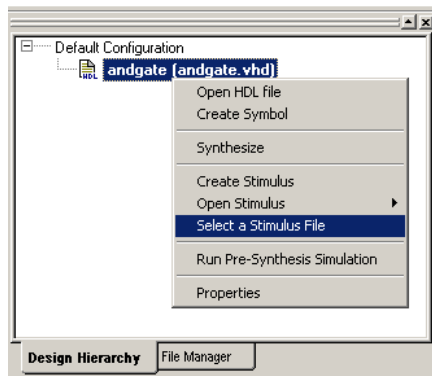

Figure 2-13. Selecting a Stimulus File
1. Select a stimulus file. Right-click `andgate` in the **Design Hierarchy** tab and choose **Select a Stimulus File**, as shown in Figure 2-13.